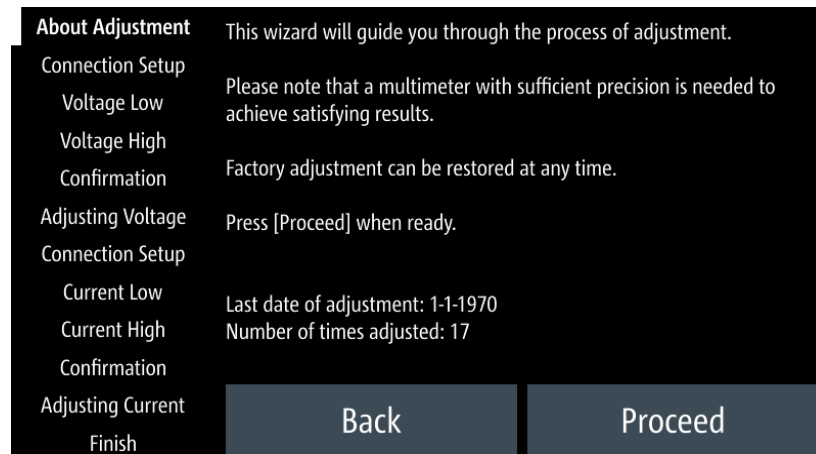
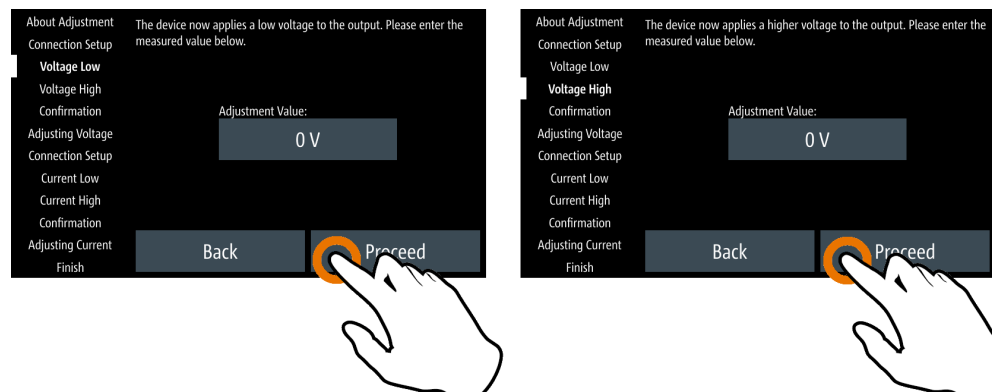

Figure 5-43: Channel adjustment wizard
Figure 5-44: Channel adjustment procedure
2. Select "Yes" to continue the channel adjustment procedures. Select "No" to return to the channel adjustment wizard, see Figure 5-43.
4. Follow the on-screen instructions displayed in the Figure 5-43. The R&S NGP800 applies a low voltage/current followed by a high voltage/current for voltage/current adjustment. Key in the measured value from DMM using the on-screen keyboard. See Figure 5-44.